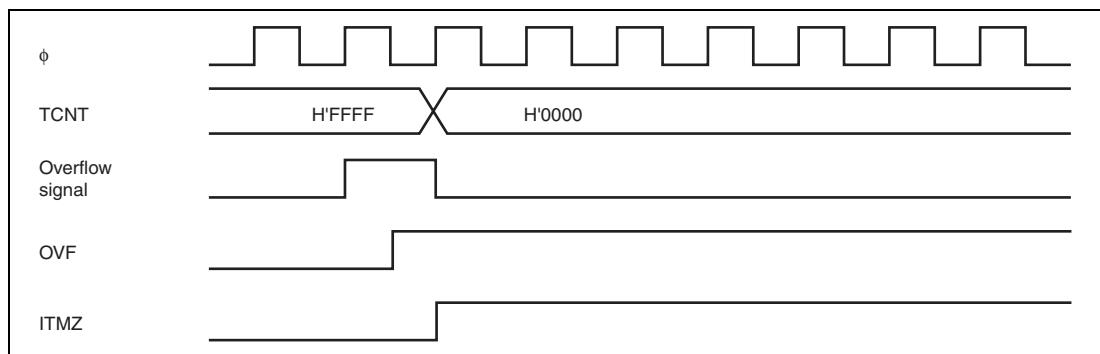

Figure 12.50 OVF Flag Set Timing
3. Overflow Flag (OVF) Set Timing: The overflow flag is set to 1 when the TCNT overflows. Figure 12.50 shows the timing.